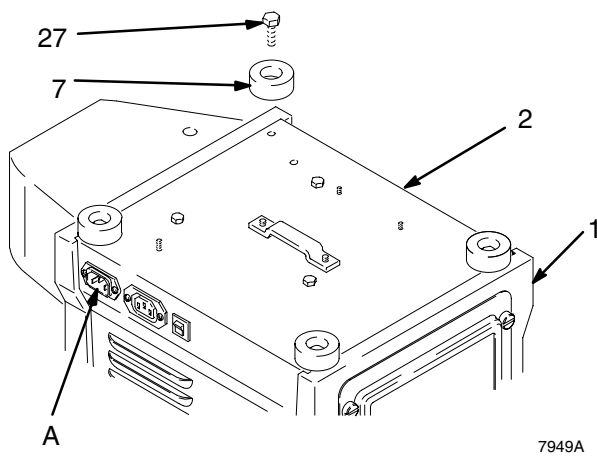

Fig. 9
Replace power cord by unplugging from IEC connector (A). Install new cord. See Fig. 9